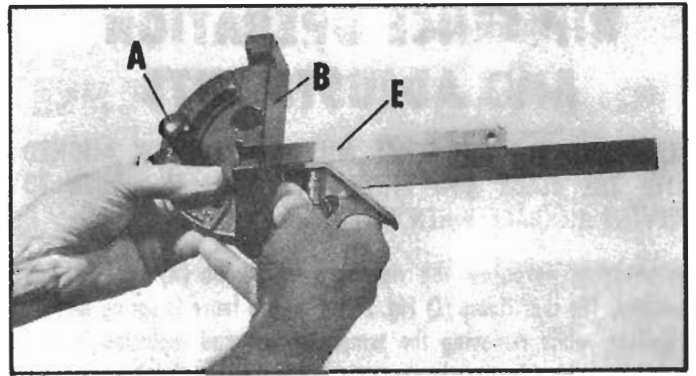

Fig. 29
1. To adjust the miter gage, loosen the clamp knob (A) Fig. 29 so that the bar (E) is free to rotate. Using a combination square as shown in Fig. 29, position the bar (E) to be perpendicular to the miter gage body (B). Retighten the clamp knob (A) to hold the position.
2. Readjust the miter gage 90° setting per Figs. 29, 30 and instructions.